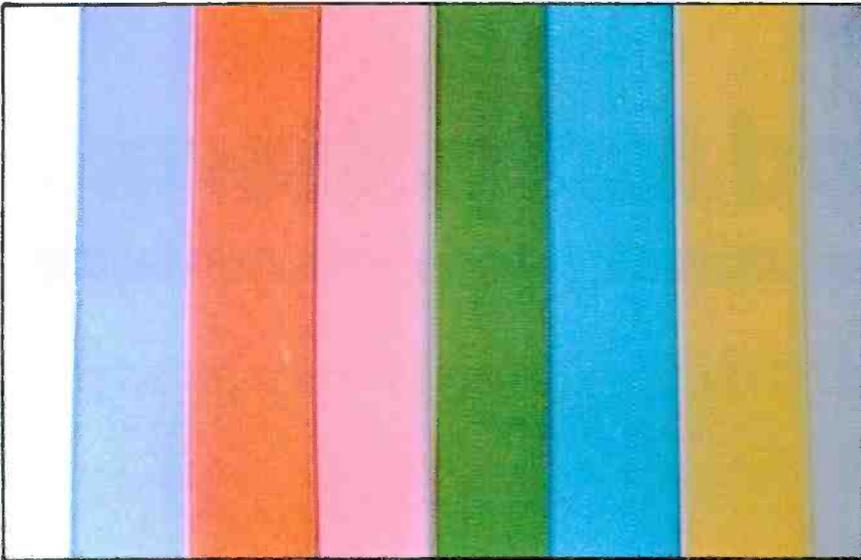
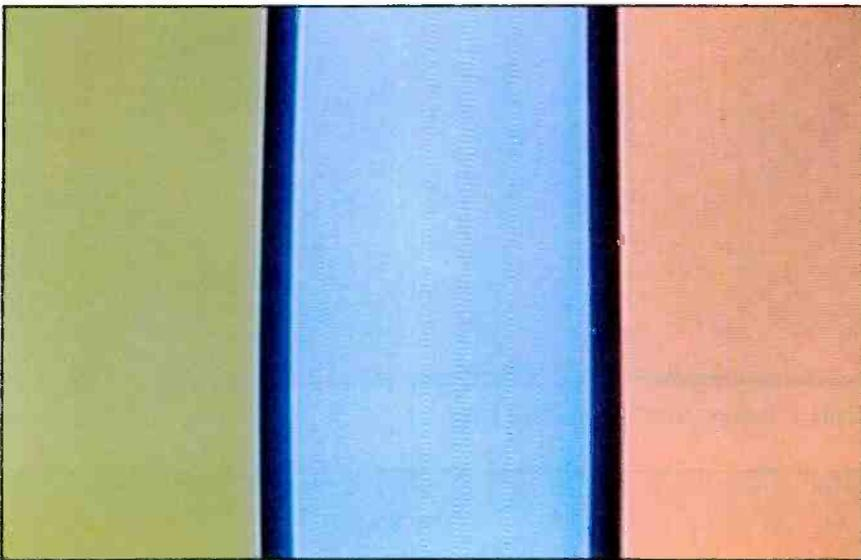

Figure 3. Eight-color bar pattern display
Figure 4. Dark red, dark blue and dark green display
Audio-signal generators with an analog-frequency selector are difficult to tune for a specific output frequency. A few years ago, I assigned lab students the job of making a digital readout for an audio generator. This would permit the generator to be used for a specific frequency—say 1,000Hz with an accurate frequency adjustment. Figure 3 shows a block diagram of the circuit as it appeared on the assignment sheet. Whether or not you decide to design and build the circuit, it serves as a good way of looking at a frequency counter.
*Negative* feedback is used in low-frequency amplifiers to broaden the frequency response. It is accomplished in two ways: *current feedback* and *voltage feedback*. Figure 4 shows the two types of circuits. Although they accomplish the same result in terms of frequency response, there are slightly different characteristics for the two circuits. They are listed here.
Figure 3 shows an 8-color bar pattern, consisting of gray, light yellow, cyan, medium green, magenta, medium red, light blue and white sections. The colors gray, yellow, cyan, green, magenta, red and blue are in order of descending luminance. Figure 4 is a 3-color pattern of dark red, dark blue and dark green colors.